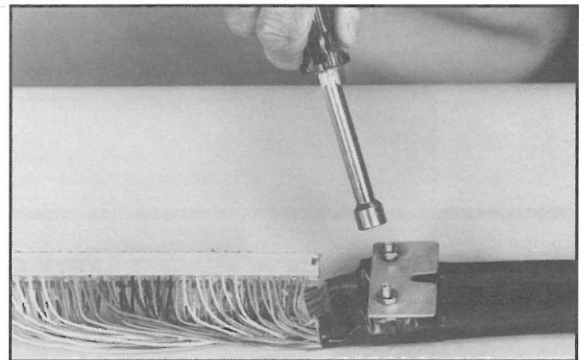

FIGURE 9 - INSTALL BONDING BRIDGE-BUTT
- 4.04** Install bonding bridge (provided) as shown in Figure 9, using the nuts provided with the bonding hardware. Tighten to 40 inch pounds (4.52 Nm).